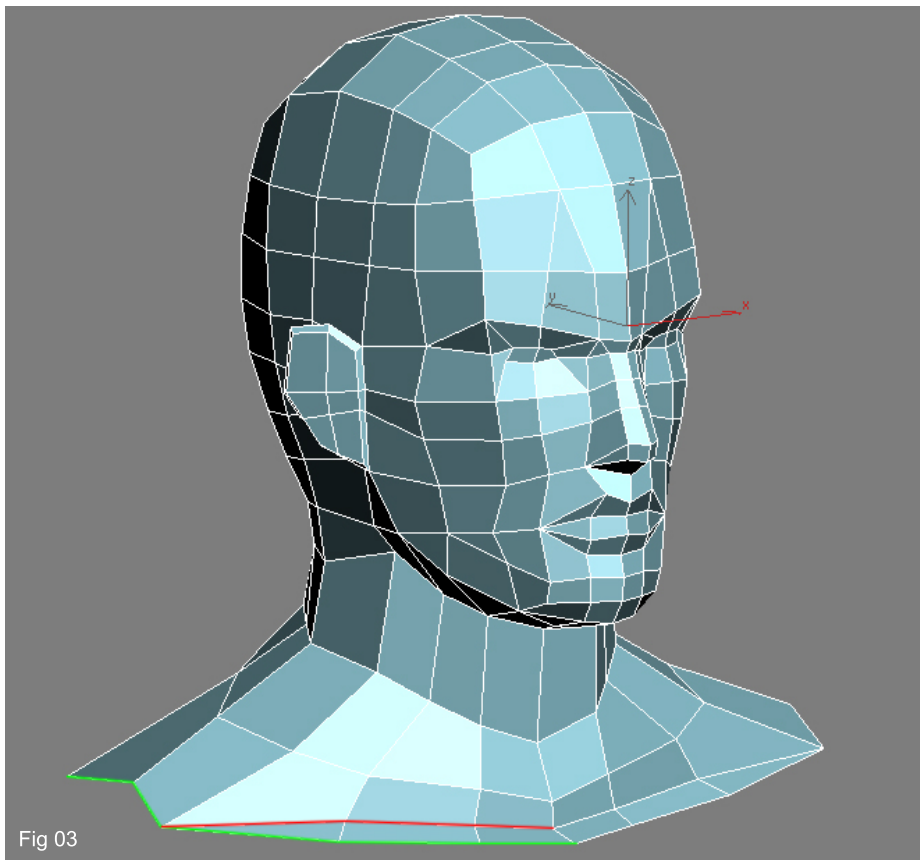

Fig 03
3. We are now going to make a cut across the front three poly's to form the clavicle as seen by the red line in Fig03 using the same technique as before – selecting the poly's in sub-object mode and applying the "Cut" tool.